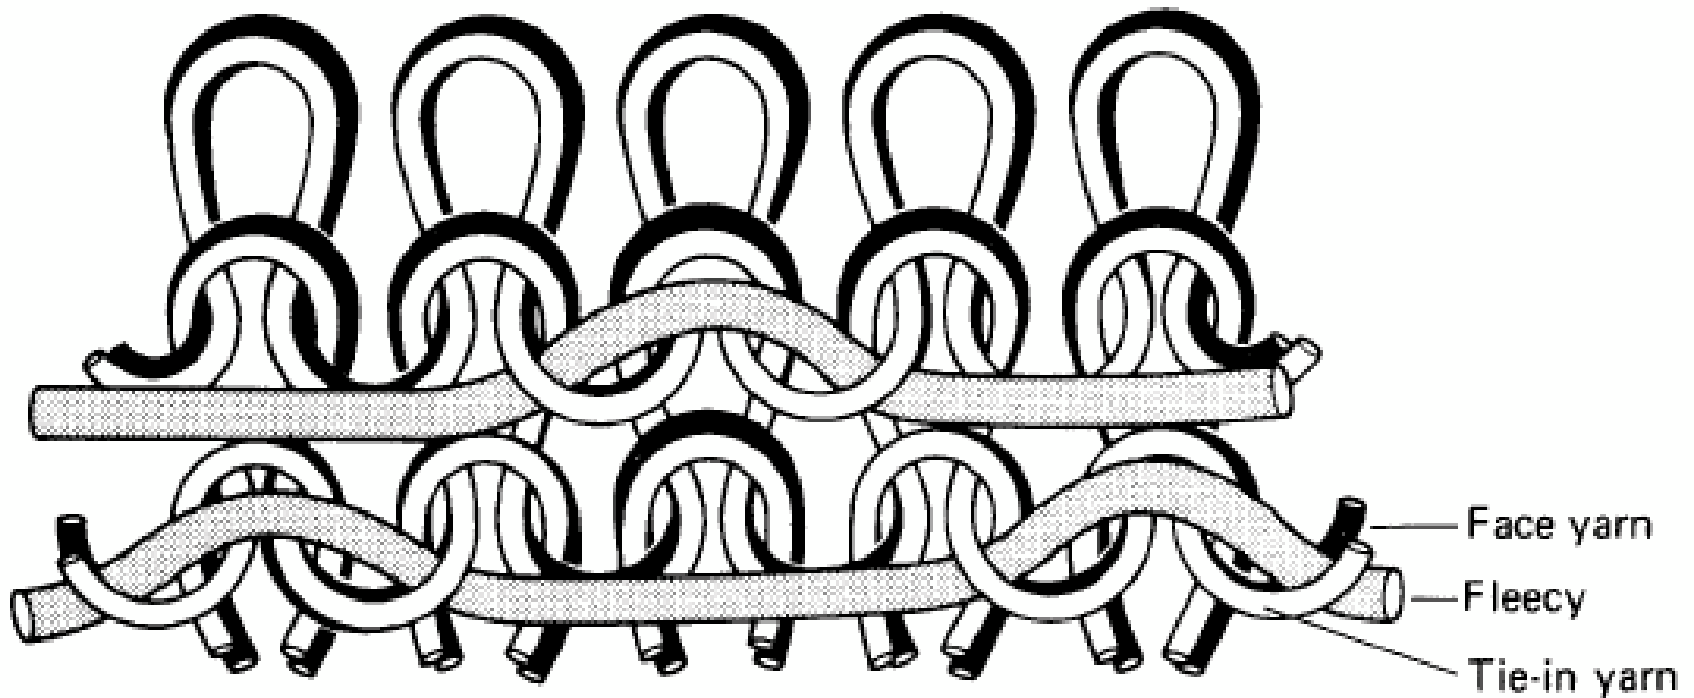

Fig. 14.1 Three-thread fleecy loop structure.
- *invisible ribbing* (Fig. 14.1) is a plain plated structure composed of a face and binding yarn with a fleecy backing yarn tucked into the technical back at every fourth wale to mesh only with the binding yarn.